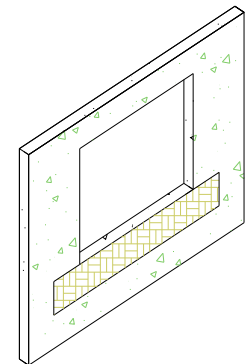

Figure 1
2. Apply the first strip of flashing paper horizontally immediately below the sill, cut sufficiently long enough to extend past each side of the window, so that it projects at least 3 inches past the vertical flashing to be applied later. (See Fig. 1).